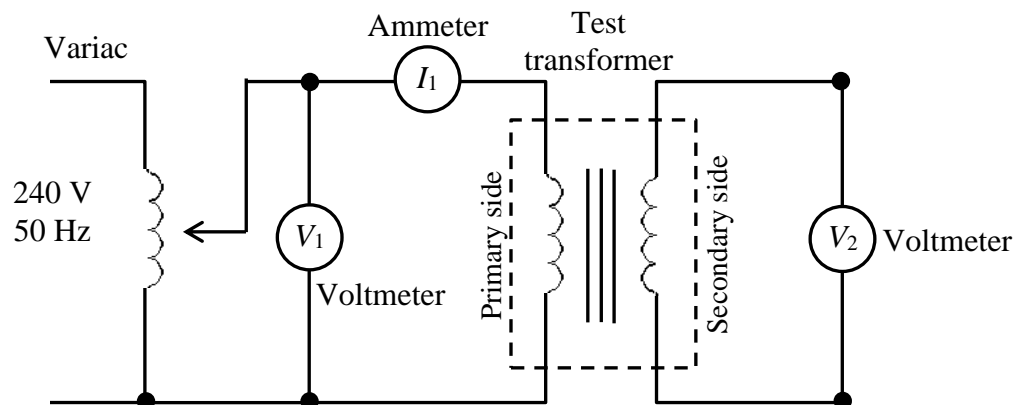

Fig. 3: Open-Circuit Test
1. For open-circuit test, connect the circuit as shown in Fig. 3. The metal frame of the transformer should be connected to the variac earth. The variable voltage AC supply is taken from a variable autotransformer, referred to as a "Variac."